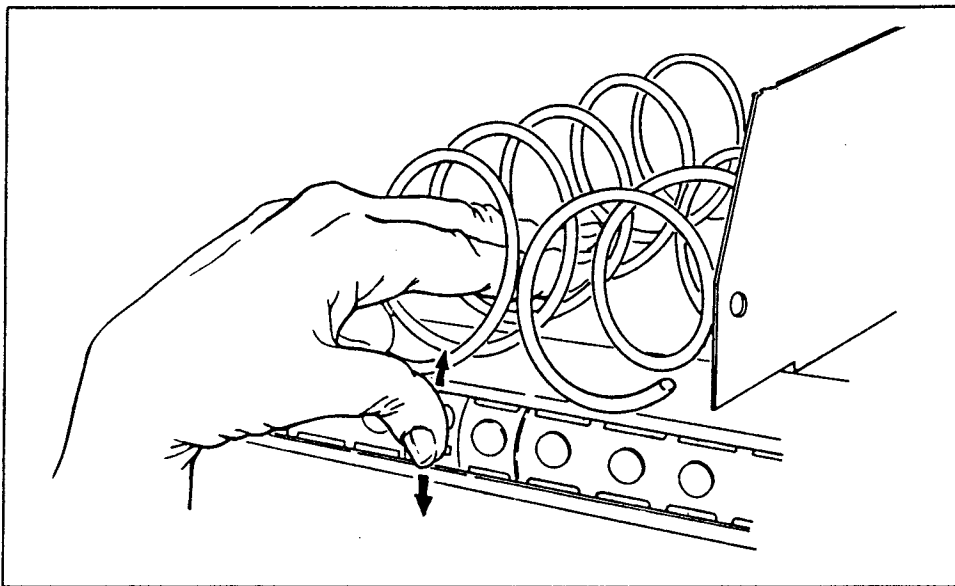

Figure FD-1c
- * Use your thumb or a pencil eraser to move each price roll up or down as needed to set the desired price. See Figure FD-1c.